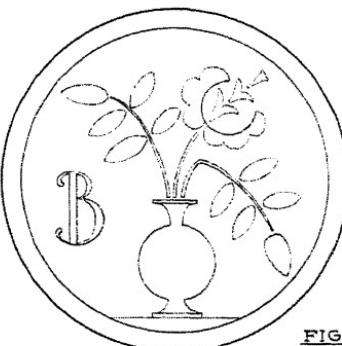

FIG. 2
2. Lay off the desired minor and major axes with a compass (Fig. 2).